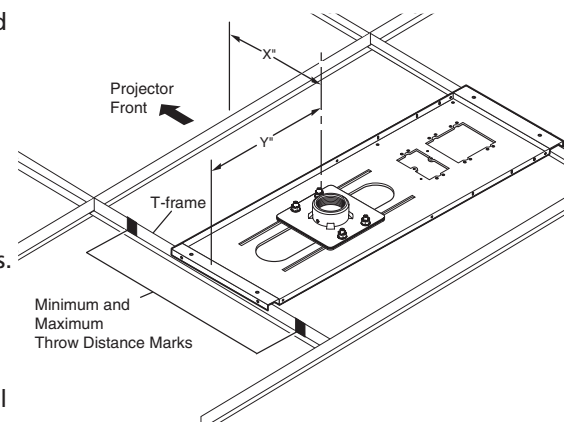

Figure 2. Minimum and Maximum Throw Distances
- b. Remove the predetermined ceiling tile and mark the maximum and minimum throw distances of the projector on the T-frame (see figure 2).
- e. Measure the distances X and Y (see figure 2) from the inner vertical section of the front and left T-frame runners to the center of the Pipe Adapter Plate.